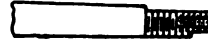
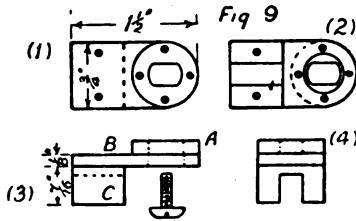

Fig 4
Fig 9
Examine the spindle of the pedal, and notice whether it projects through the nut which adjusts the bearings. If it does so to the extent of not less than  $\frac{1}{16}$  in., it will save trouble; if not, the adjusting nut must be turned thinner until it projects that amount. Take out the spindle and file a second flat on the small end, opposite the existing one, extending about  $\frac{1}{8}$  in. Drill a hole about  $\frac{3}{8}$  in. deep up the spindle, and tap it  $\frac{1}{8}$  in. This is shown in Fig. 4.
The claw which moves the commutator arm is shown in Fig. 9—(1) plan from above; (2) plan from below; (3) side elevation and (4) end elevation. *B* is vulcanite, to which are riveted the brass pieces *A* and *C*. Copper wire makes excellent rivets, which should be countersunk at each end. The piece *A* is rigidly attached to the lower end of the vane spindle (see Fig. 4), and has an oval hole for it to fit into. A hole is turned in the vulcanite *B* to allow a  $\frac{1}{8}$  in. screw, with a large thin head, to fix *A* to the spindle, and not project beyond the surface of *B*. The piece *C* has a slot filed to fit easily